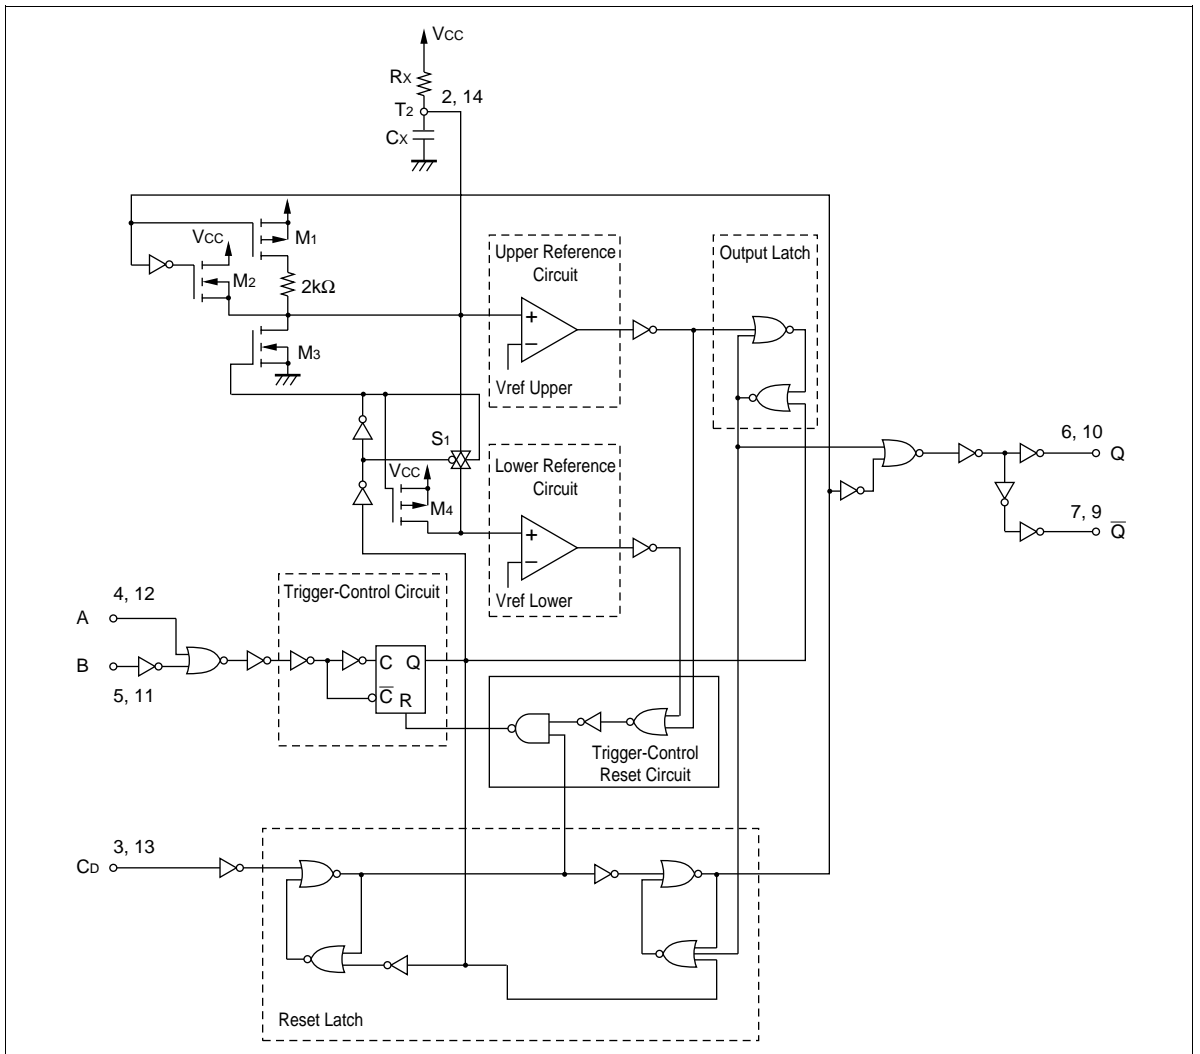
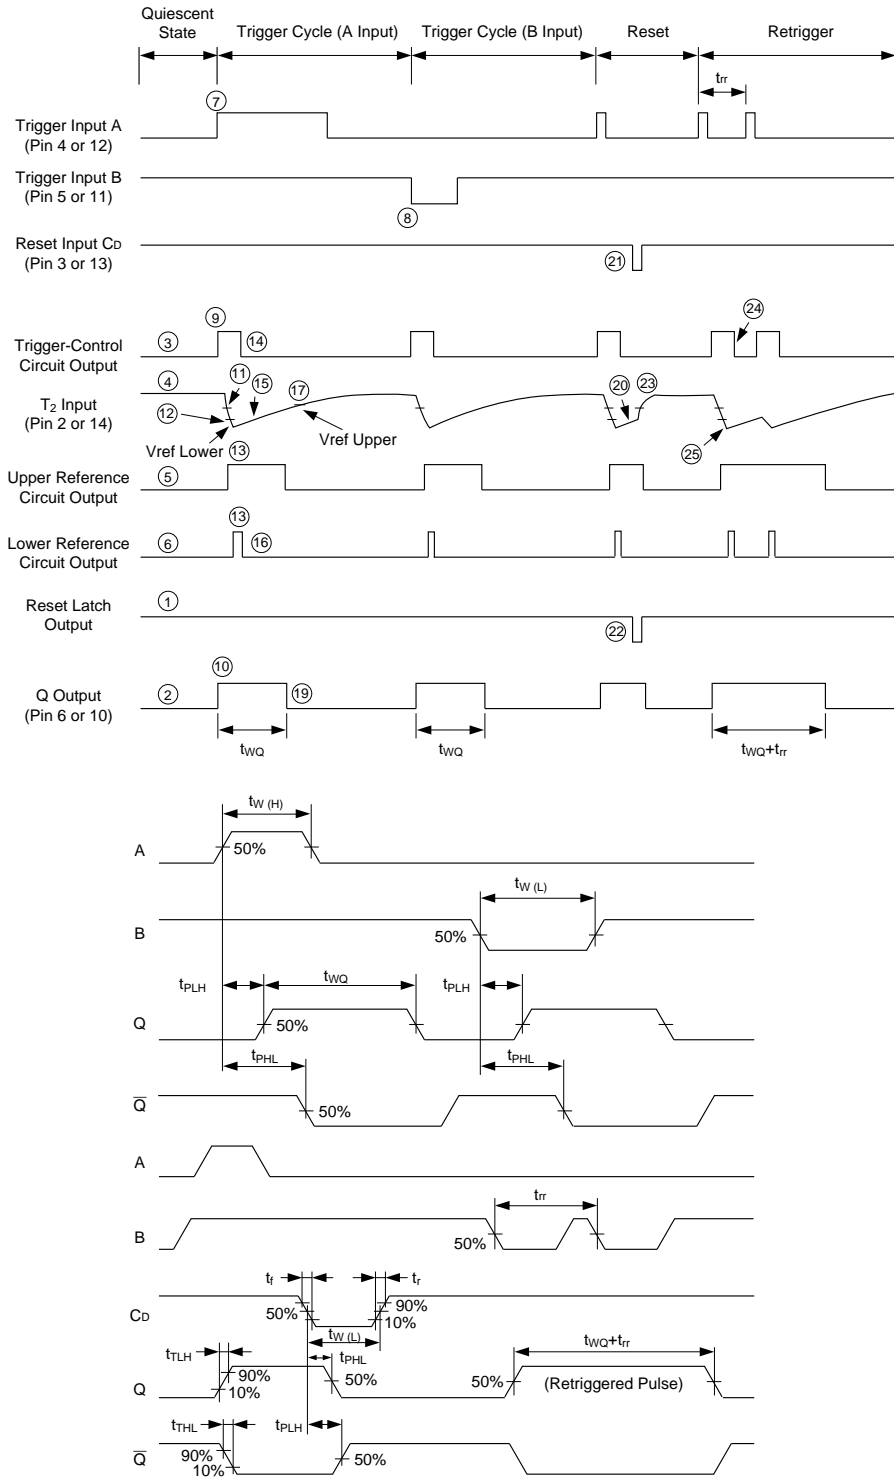
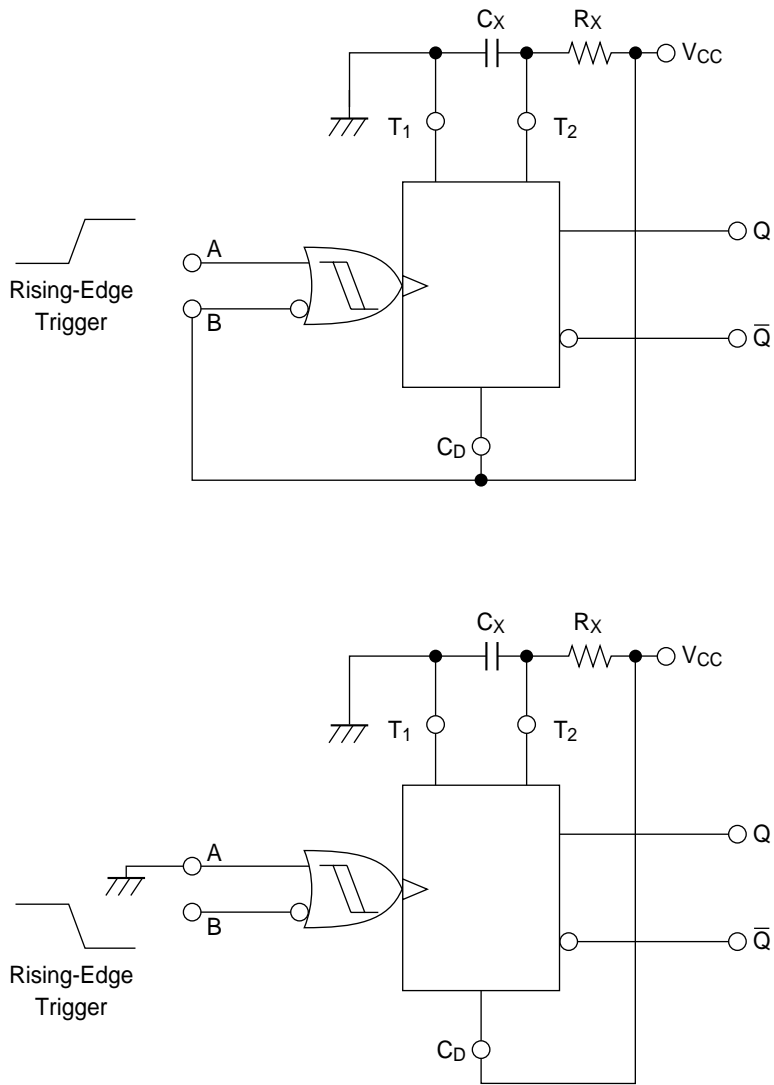

Fig. 1 Function Diagram
Fig. 2 Timing Diagram
Fig. 3 Retriggerable Monostable Circuitry
Fig. 3 shows the HC4538 configured in the retriggerable mode. Briefly, the device operates as follows (refer to Fig. 1): In the quiescent state, the external timing capacitor, C_X , is charged to V_{CC} . When a trigger occurs, the Q output goes high and C_X discharges quickly to the lower reference voltage ($V_{ref\ Lower} = 1/3 V_{CC}$). C_X then charges, through R_X , back up to the upper reference voltage ($V_{ref\ Upper} = 2/3 V_{CC}$), at which point the one-shot has timed out and the Q output goes low.
The following, more detailed description of the circuit operation refers to both the function diagram (Fig. 1) and the timing diagram (Fig. 2)
In the quiescent state, before an input trigger appears; the output latch is high and the reset latch is high (1 in Fig. 2). Thus the Q output (pin 6 or 10) of the monostable multivibrator is low (2 Fig. 2).
When used in the retriggerable mode (Fig. 3), the HC4538 may be retriggered during timing out of the output pulse at any time after the trigger-control circuit flip-flop has been reset (24). Because the trigger-control circuit flip-flop resets shortly after C_X has discharged to the reference voltage of the lower reference circuit (25), the minimum retrigger time, t_r (Switching Waveform 1) is a function of internal propagation delays and the discharge time of C_X :